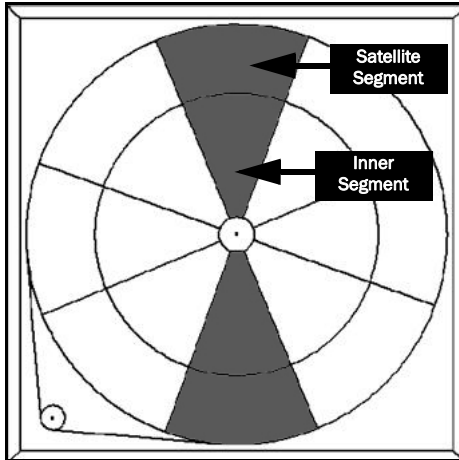

Figure 23 Remove or install opposing inner and satellite segments to minimize wheel imbalance.
An uneven number of segments in the wheel will cause the wheel to accelerate in rotation. Minimize wheel imbalance and unwanted rotation during service by installing or removing opposing segments for even weight distribution, Figure 23. Failure to maintain control of the wheel rotation while removing or installing all segments could cause severe injury to fingers or hands. Always close and secure segment retaining latches before rotating wheel.
- 12 Rotate wheel 180-degrees to remove opposing satellite and inner segment to restore balance, Figure 23.
- 8 Repeat previous six steps to install inner and satellite segment sets, ensuring balance throughout the procedure, Figure 23.